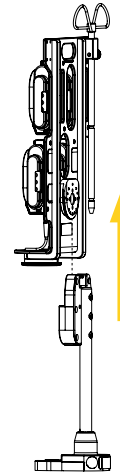

Figure 10: Removing the mounting bracket from the Micro Base vertically
1. Remove the mounting bracket from the Micro Base using the quick release button located at the front of the base (Figure 9 and Figure 10). Refer to the « Safety Mechanism » section on page 18 if needed.